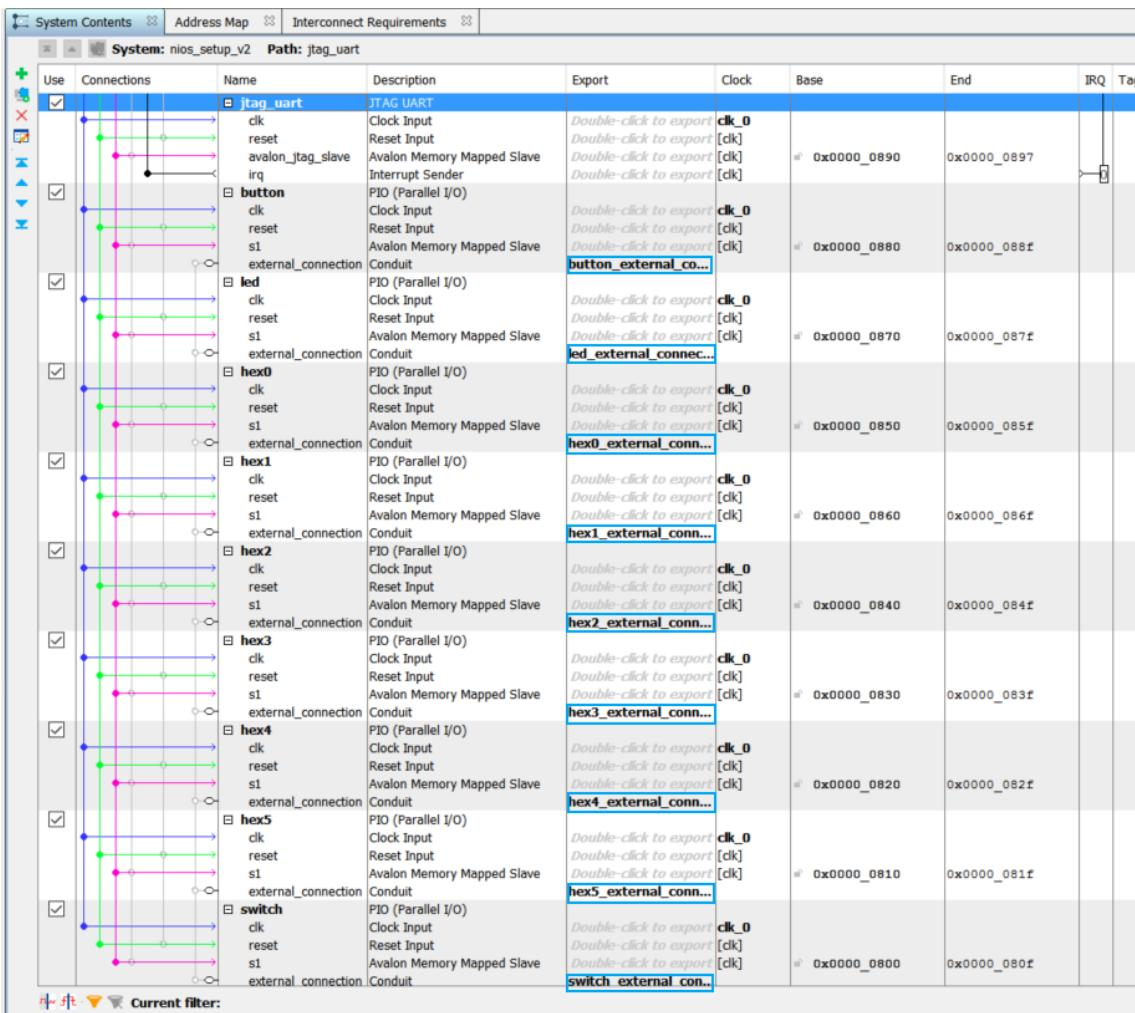

Figure 25: System Contents after Exporting PIO Switch and LED
- Double click on the button, led, switch and hex0-hex5 conduit items under the export column circled in Figure 25 on the following page. This will bring these ports out of the Platform Designer component to connect to the top-level design.
*Be sure the names of the components and exports match what is in Figure 25 EXACTLY, or the design may not compile at runtime.*